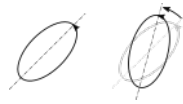

Figure 5.10: Ellipse orientation
**Ellipse orientation in  $^\circ$**  sets the ellipse orientation, i.e. the rotation around the center of the movement or in other words a phase shift between the frequency and the sinusoidal and cosinusoidal rotary movement of the mirrors simultaneously. Figure 5.10 on page 84 illustrates this.